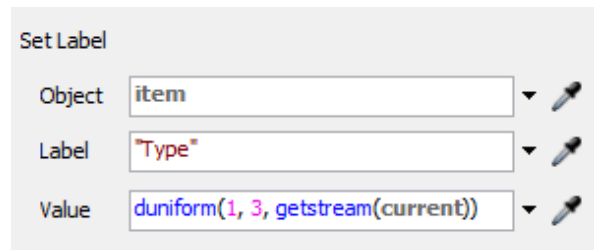

Fig. 8 *Set Label* option
1. **Set Label** – allows you to change the value of an existing label or add a new label with a given value. In *the Object* field, you specify the object to which the label is assigned, in the *Label* field you define the name of the label and in the *Value* field its value (Fig. 8).